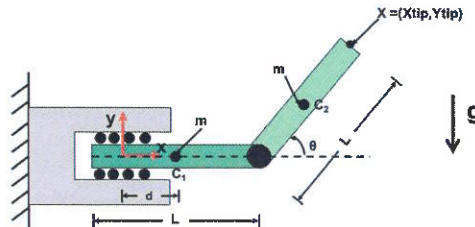
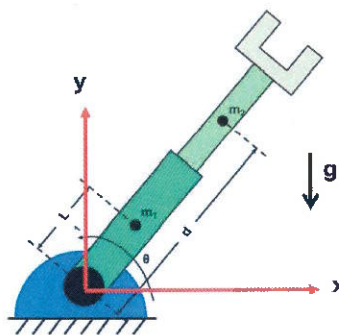
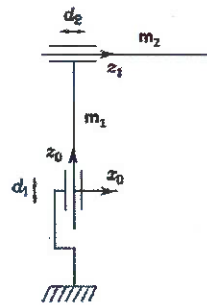

Figure 1: A 2-DoF Prismatic-Revolute planar arm (PR Robot)
Figure 2: A 2-DoF Revolute-Prismatic planar arm (RP Robot)
Figure 3: Example of a 2-DoF Planar Prismatic-Prismatic Manipulator (PP Robot)
1. **Dynamics** Consider a 2-DoF Prismatic-Revolute manipulator (PR Robot) shown in Fig. 1. Assume that all joints are frictionless. $q = [d, \theta]^T$ are the joint variables of the manipulator, where d is the displacement of the first link and θ is the angular position of the second link. $\tau = [\tau_1 \ \tau_2]^T$ are the generalized forces for the manipulator. We also assume that the mass is uniformly distributed in both links and the total mass for both link are equal such that $m_1 = m_2 = m$. Both links have the same length, width, and height such that $L_1 = L_2 = L$ and $w_1 = w_2 = h_1 = h_2 = a$.
- (c) For the RP Robot in Fig. 2, the joint variables are $q = [\theta, d]^T$, while the operational space is chosen as $P = [x, y]^T$. The links for the RP Robot have inertia tensors
and the total mass m_1 and m_2 , where $m_1 = m_2 = m$. The center of mass of link 1 is located at a distance L from the joint-1 axis. The center of mass of link 2 is at the “variable” distance d from the joint-1 axis as it can move in and out along the direction of the link 1. $T = [\tau_1, \tau_2]^T$ is the applied torques for each link. The direction of the gravity vector is also indicated in Fig. 2.
- (d) (3%) In this question, we want to compare the inertial properties among a 2-DoF Prismatic-Revolute manipulator (PR Robot, Fig. 1), a 2-DoF Revolute-Prismatic manipulator (RP Robot, Fig. 2), a 2-DoF Prismatic-Prismatic manipulator (PP Robot, Fig. 3), and a 2-DoF Revolute-Revolute manipulator (RR Robot, Fig. 4). For a 2-DoF manipulator, the inertial matrix can be written as